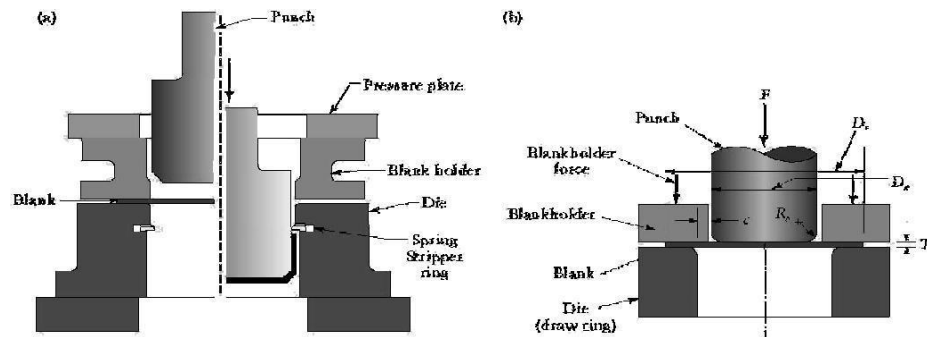

Fig. 3 Schematic of the Drawing process
- **Deep Drawing:** forming process causes the sheet metal to undergo the desired shape change by drawing without failure. Ref fig.3